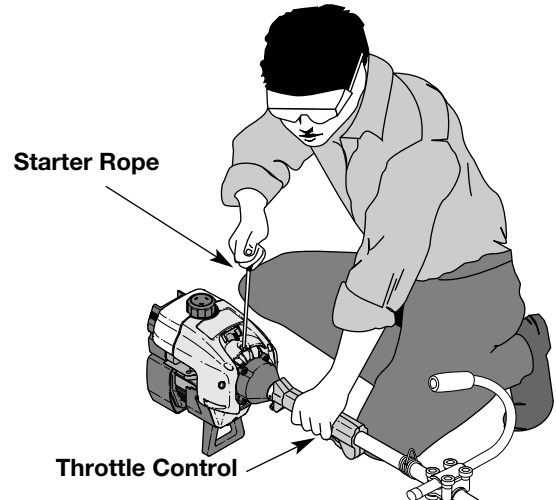

Fig. 9
WARNING: Avoid accidental starting. Be in the starting position when pulling the starter rope (Fig. 9). The operator and unit must be in a stable position while starting to avoid serious personal injury.
5. With the unit on the ground, squeeze the throttle control and pull starter rope briskly (Fig. 9). Continue pulling until the engine sounds as though it wants to run (normally 2 to 5 pulls).
7. Pull starter rope briskly 1 to 3 times to start the engine (Fig. 9).
1. Release your hand from the throttle control (Fig. 9). Allow the engine to cool down by idling.